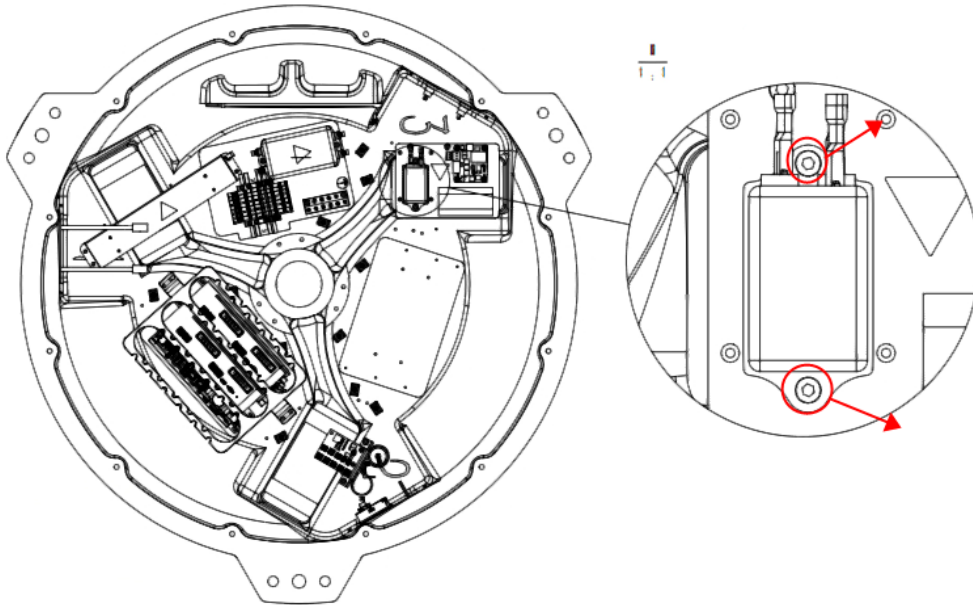

Figure 4-13 Removing the Surge Suppressor's Set Screws
Step 3 Use an Allen wrench to loosen and remove the fixing screws of the surge suppressor, as shown in Figure 4-13.